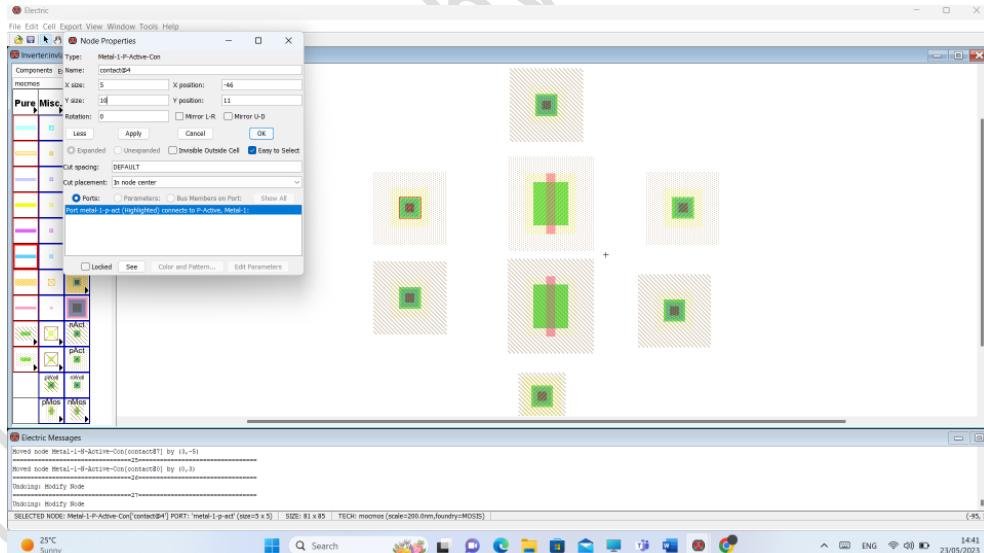

Figure 1.36: changing contact size.
4. Change the width to 10 of pAct and nAct. click on the component you need to change such as pAct then click on Edit>>properties >>Object Properties >> change the Ysize >> OK. (see Figure 1.36).